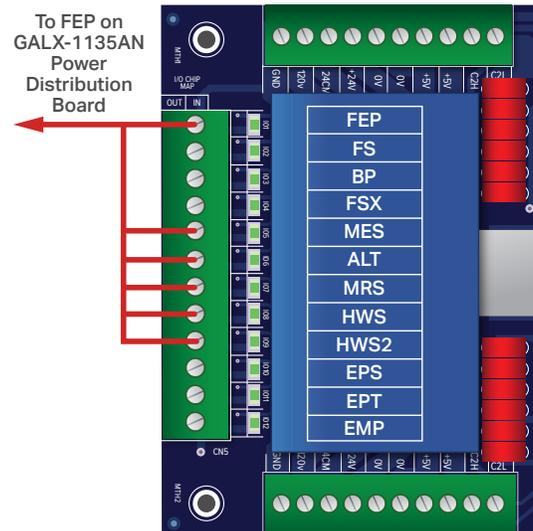

Figure 1: Typical I/O Expansion Board
- 2 Add temporary connections on the GALX-1121 Main I/O Board and on the I/O expansion boards as shown in **Figures 1, 2, and 3**.